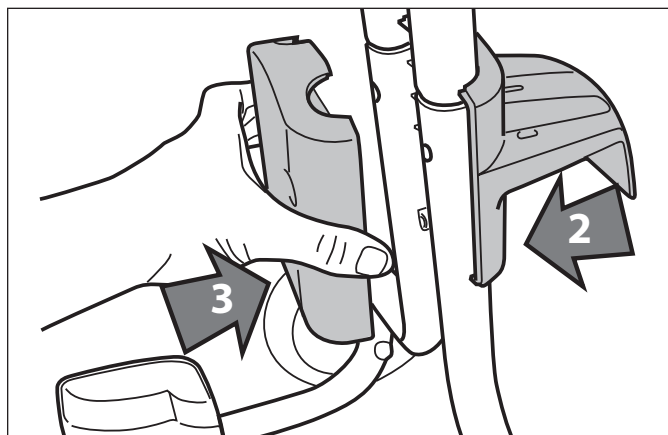
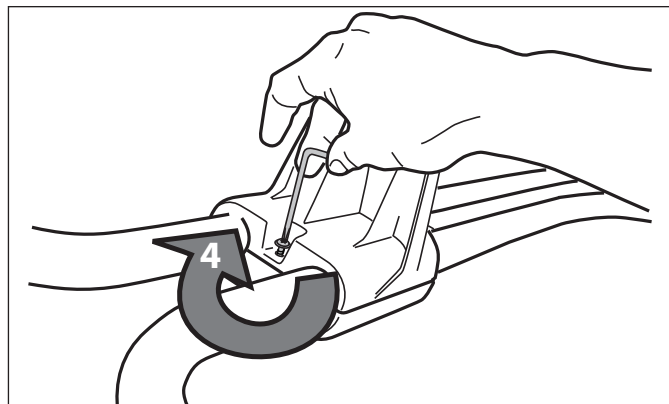

Figure 3. Position the Bottom Power Cable Hook
Figure 4. Secure the Bottom Power Cable Hook
- Position the bottom power cable hook as shown in Figure 3. Place the cable hook plate opposite the power cable hook. Secure using a screw and tightening with the Torx® wrench. Refer to Figure 4.